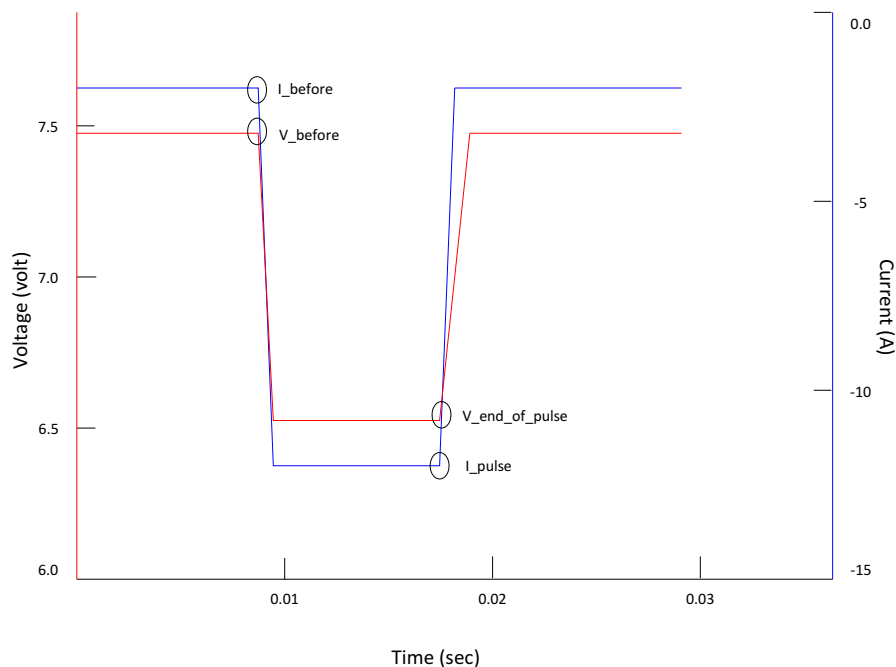

Figure 7-3. R_{hf} Resistance Reference Waveform
- Perform at 4C, 10-ms pulse discharge test, and collect 1 ms or higher sampled data with oscilloscope (see Figure 7-3).